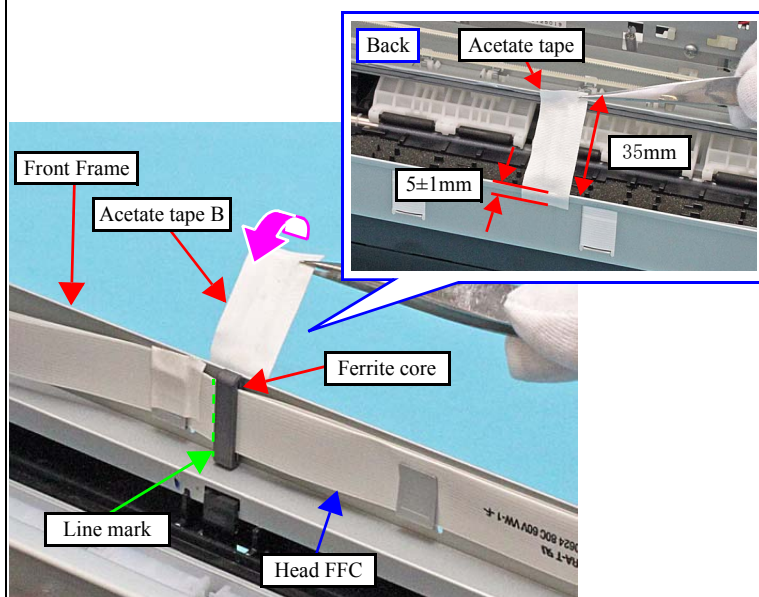

Figure 7-23. Acetate tape position
1. Align the ferrite core with the line mark shown in Figure 7-23, then secure it to the Front Frame with double-sided tape.